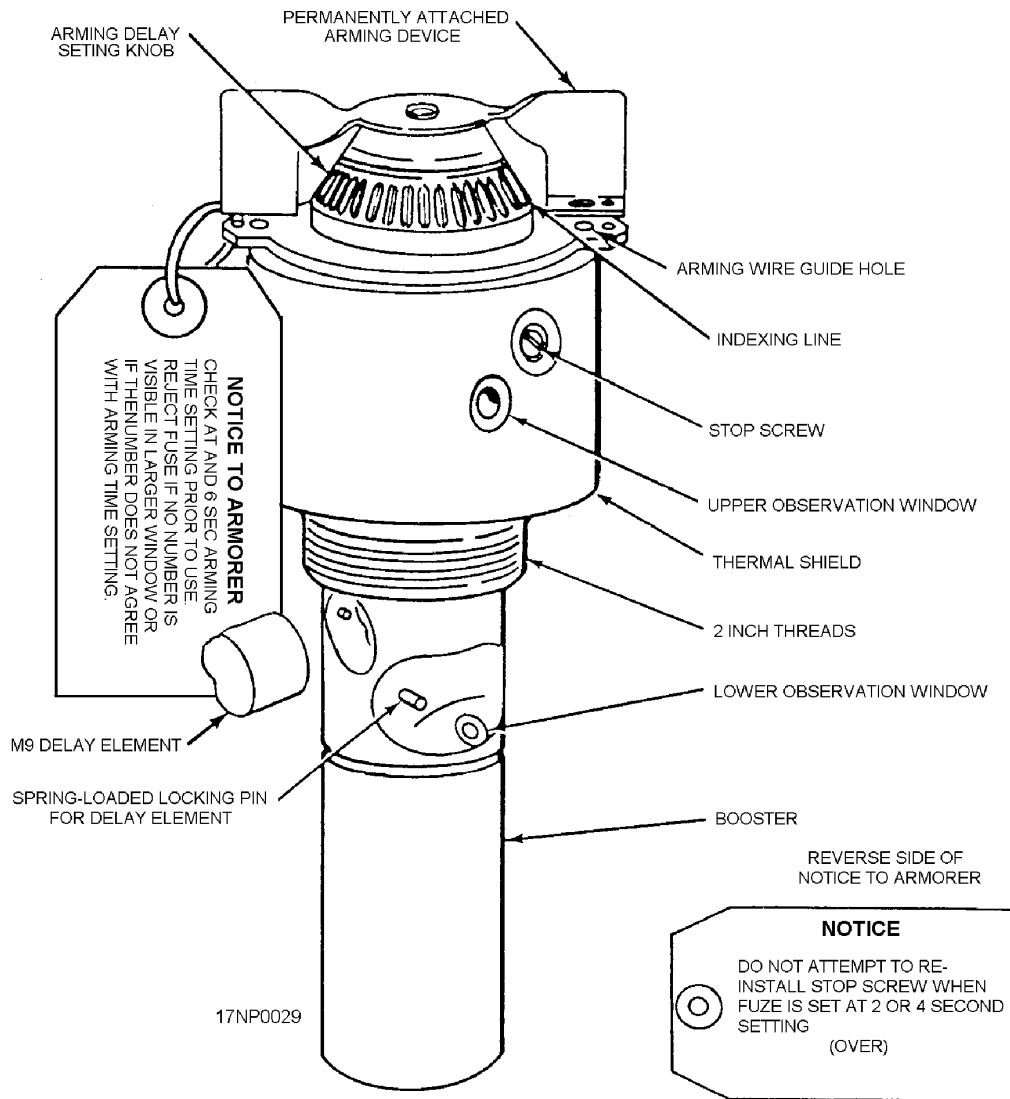

Figure 1-1.—Mechanical impact nose fuze M904 (series).
The M904 (series) fuze (fig. 1-1) is a mechanical impact nose fuze used in the Mk 80 (series) low-drag general-purpose (LDGP) bombs. The M904 (series) fuze is installed in the nose fuze well of the bomb and requires the use of an adapter booster. The fuze is detonator-safe, and it contains two observation windows through which you can determine the safe/arm condition of the fuze. There is no special locking feature designed into the fuze for shear safety if the bomb is accidentally dropped. However, detonation is unlikely if the collar (forward end of the fuze) is sheared off by the accidental drop before arming is complete.
**IDENTIFICATION OF ARMED FUZES.**—There are three conditions of the M904 fuze—safe, partially armed, and fully armed. You can verify the fuze conditions by looking through the two observation windows in the fuze body (fig. 1-1). To check the fuze condition, hold the fuze vertically and look through the windows perpendicular to the fuze body. Look at table 1-2. It shows you what you would see through the observation windows of the M904E3/4 fuze at various time settings and fuze conditions.